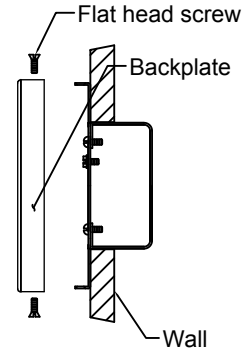

FIGURE-02
5. Attach the fixture to the mounting ring w/ wing and secure it with flathead screws (See Figure-02)